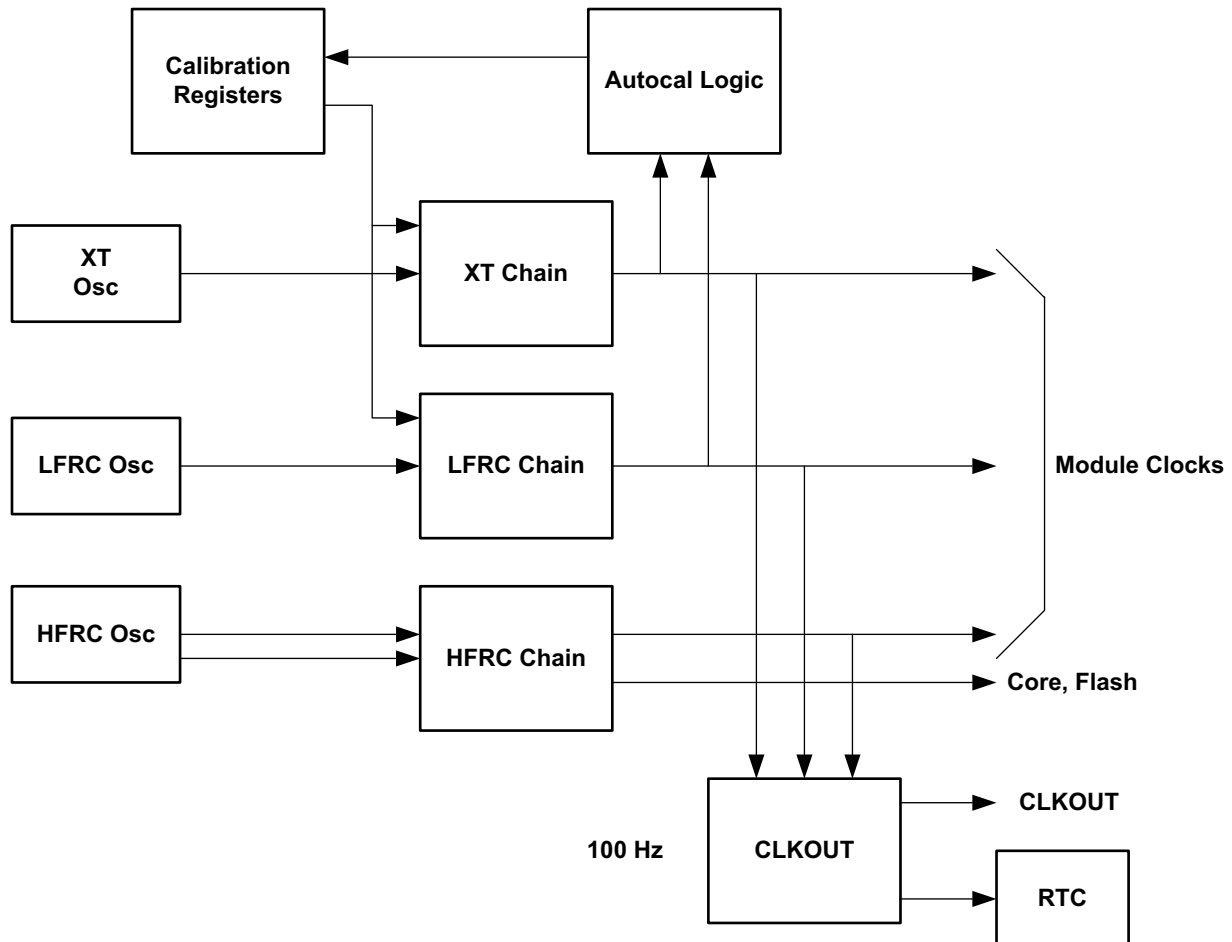

Figure 63. Block diagram for the Clock Generator and Real Time Clock Module
A high-level view of the Clock Generator Module, which supplies all clocks required by the Apollo3 Blue MCU, is shown in Figure 63. These clocks are derived from one of three fundamental clock sources: a high precision crystal controlled oscillator (XT), a low power 1 kHz RC oscillator (LFRC) and a high frequency 48/96 MHz oscillator (HFRC).